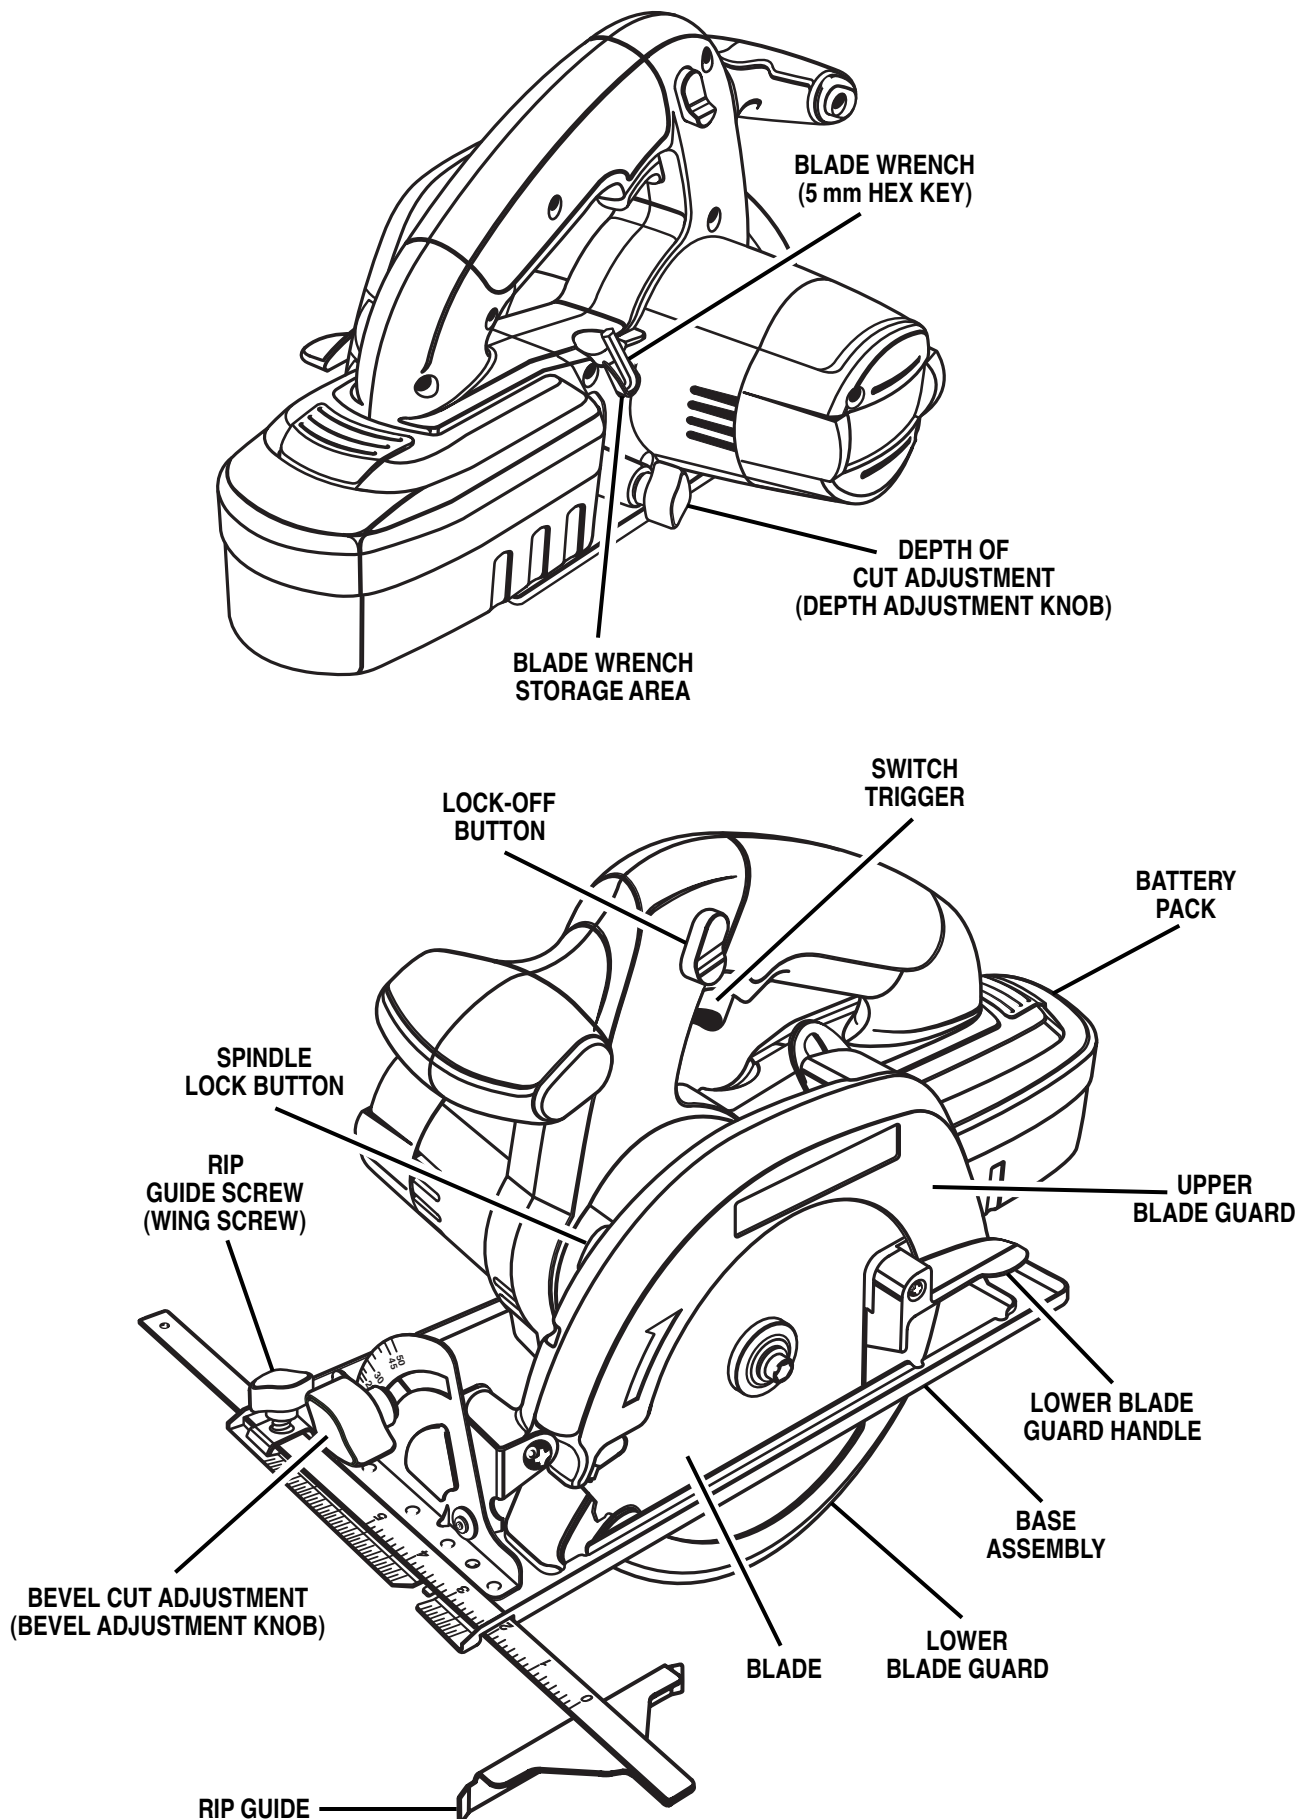

Fig. 1
See Figure 1.
- Remove blade wrench (5 mm hex key) from storage area. See Figure 1.
- Remove blade wrench from storage area. See Figure 1.